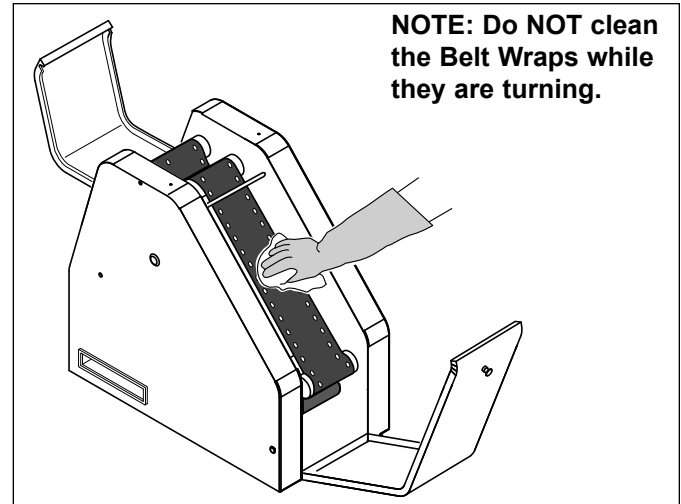

Figure 9. Cleaning the Belt Wraps
2. Wearing heat-resistant gloves, wipe the outer side of the upper Belt Wrap with a clean towel dampened with **McD® All-Purpose Super Concentrate (APSC) (HCS)** (Figure 9).